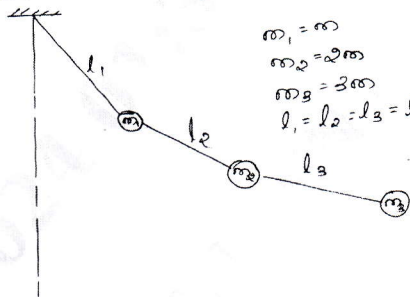

Fig.Q7(a)
- 7 a. Determine the influence coefficients for the system show in Fig.Q7(a).